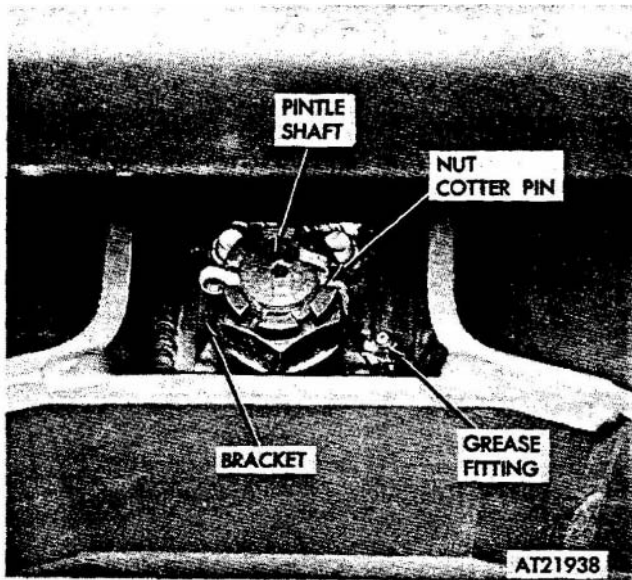

Figure 2-285. Pirate assembly (inside hull), removal and installation.
(1) Remove cotter pin securing pintle shaft nut **and** remove nut and washer. Pull pintle assembly from carrier (fig 2-285).
lubrication fitting down, and start the four nuts. Tighten finger tight (figs 2-285 and 2-286).